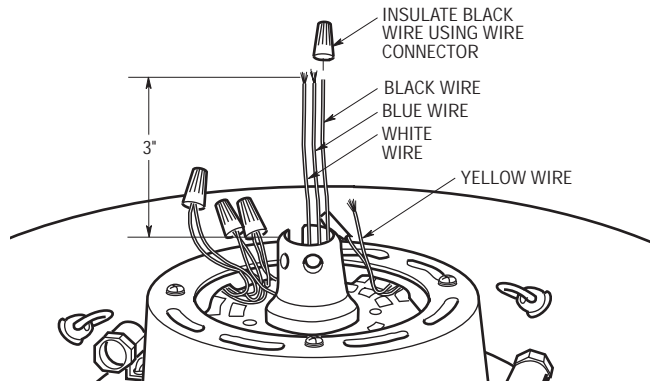

Figure 3A
6. Cut the white, blue and black wires about 3" above the motor coupling (Figure 3A). Strip insulation 1/2" from end of the white and blue wires. Install a wire connector on the black wire; this wire will not be used.